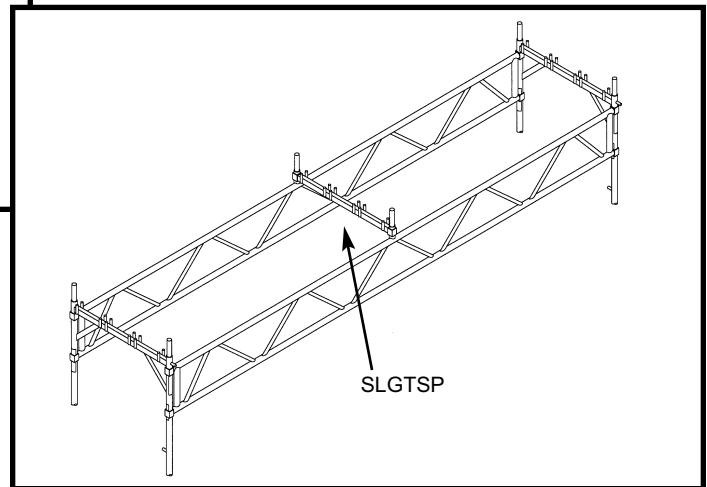

Figure 16: Girt Installation
**2.6.2.3 Installing the Girts:** Erect the scaffold run or towers one (1) level below the desired Girt height. Omit the frames in the proposed Girt area. Install two SL frames and rails on both sides of the opening to which the Girt is to be placed, but do not install platform planks above or vertical diagonal braces at this time. Remove the "T" bolt from each Girt clamp. Lift and position the Girt at the desired location (this may require moving the scaffold frames to properly seat the Girt clamps), insert the "T" bolts in the Girt end clamps and fasten the Girt at one end. Girts are heavy (as much as 180 pounds) therefore it will require at least two, possibly three erectors to lift and position each Girt. Level the Girt and tighten the remaining clamps on the other end. Repeat this procedure to install the second Girt. Check level between the two girts. (See Fig. 16)